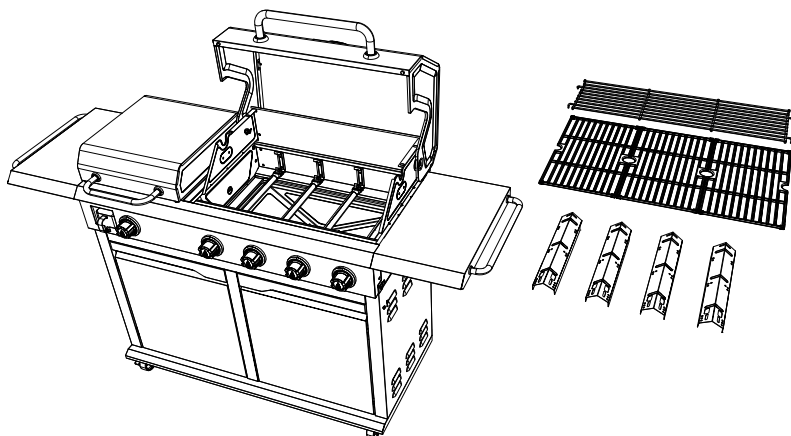

Figure 1
2. Open grill lid and remove warming rack, cooking grates, and heat tents as shown in Figure 1.